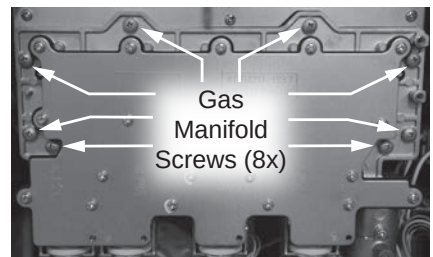

Figure 159 - Removing gas manifold from old primary heat exchanger
- 52** Locate the gas manifold on the old primary heat exchanger. Remove the eight screws securing the gas manifold and place them aside in a safe place for reinstallation. See Figure 159.